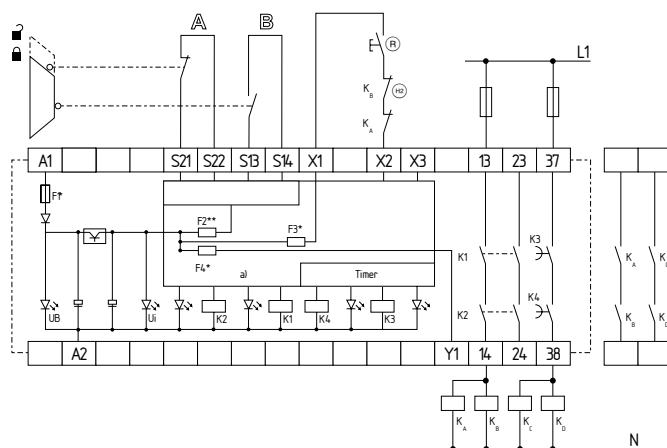

Fig. 8
Dual-channel control, shown for a guard door monitor; with two contacts A and B, where at least one is a positive break contact; with external reset button (R) (see Fig. 8)